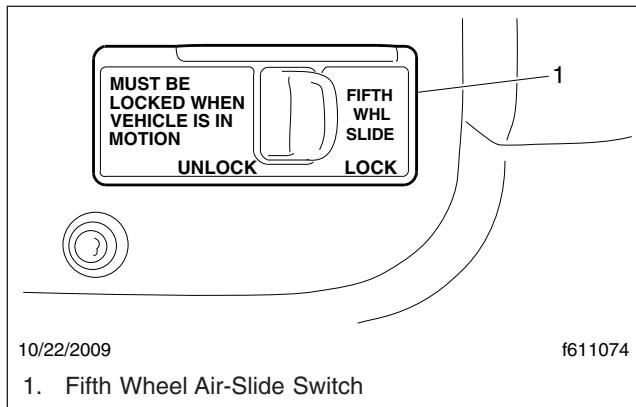
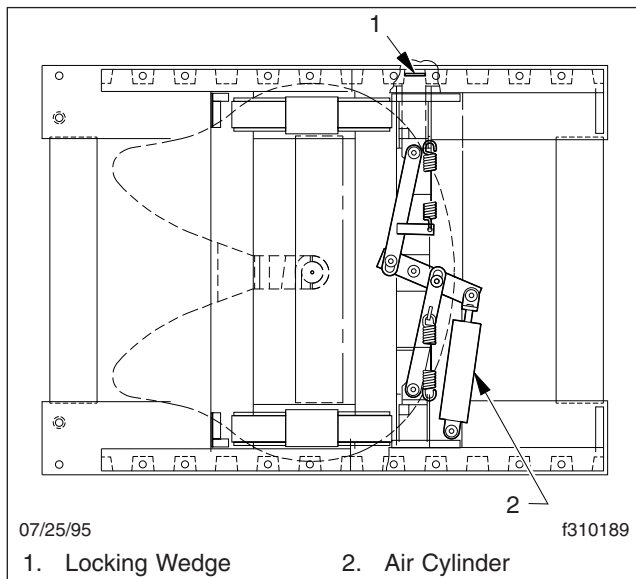

Fig. 17.8, Air-Slide Switch
Fig. 17.9, Air-Operated Sliding Fifth Wheel (Fontaine shown)
The slide feature may be operated with an air switch mounted in the dash, that operates an air cylinder that locks and unlocks the slide. See **Fig. 17.8**.
1. Set the air-slide switch (**Fig. 17.8**) to UNLOCK. Ensure the locking plungers have released. See **Fig. 17.9**.